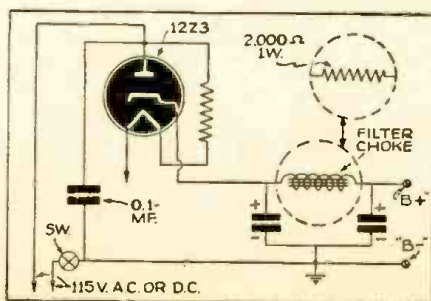

Fig. 4. The rectifier and filter circuit.
**Rectifier Circuit Variations.** A single 12Z3 rectifier tube or even a type 37 triode with grid and plate connected together may be found in a circuit arrangement like that in Fig. 4. Since supplying field excitation to a dynamic speaker would place too heavy a drain on the rectifier, you may expect to find a magnetic loudspeaker in a receiver having this power pack circuit. The 0.1-mf. condenser connected across the power line tends to prevent interference from entering the receiver by way of the power line. Oftentimes a 2,000-ohm, 1-watt resistor is used in place of the more efficient but bulkier and more costly filter choke, as indicated inside the dotted circle in Fig. 4.